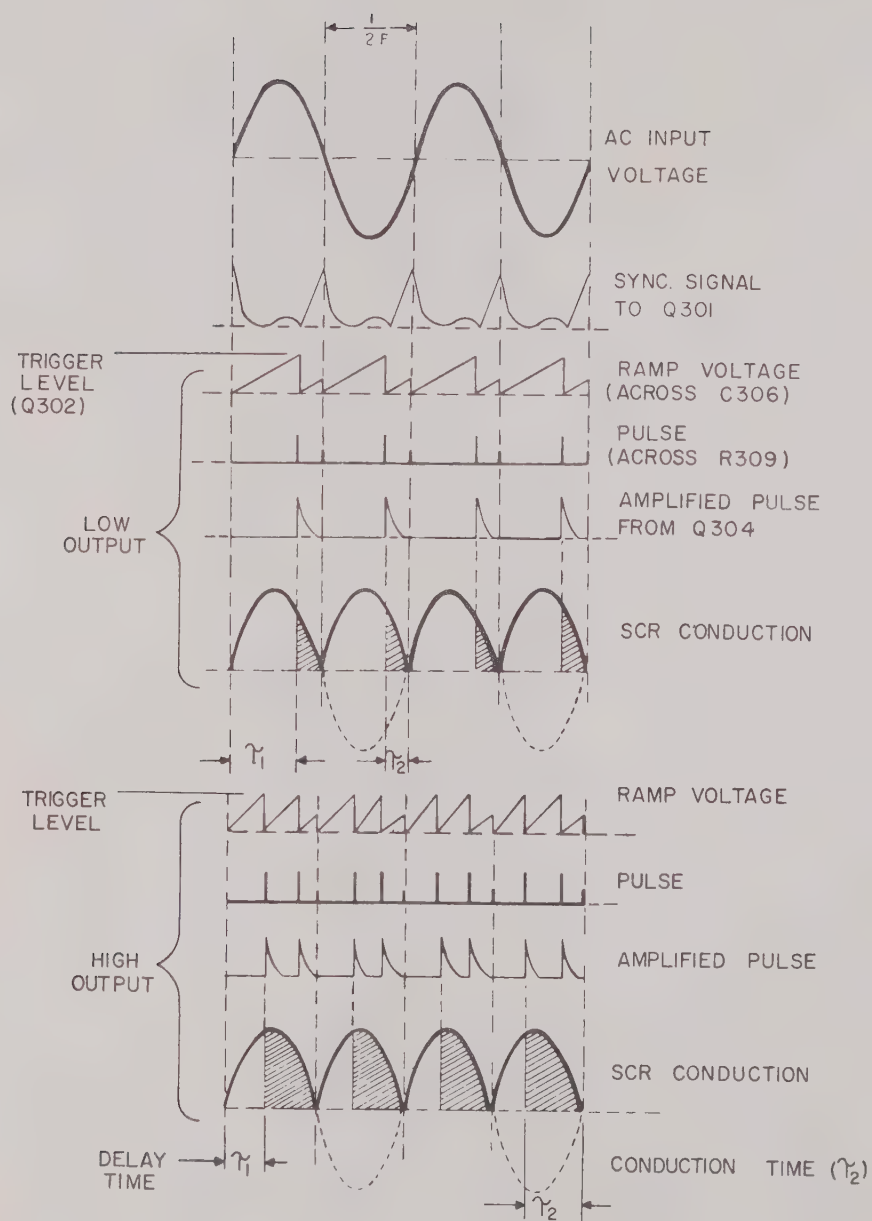

FIG. 4-6 SCR TIMING WAVE FORM
- 4-12 Fig. 4-6 shows the timing wave forms and their relationship to each other for two conditions of output voltage or current. The significant difference between the two conditions is the length of the timing ramp wave form across C306 and the resulting difference of firing angle of the S.C.R.'s.